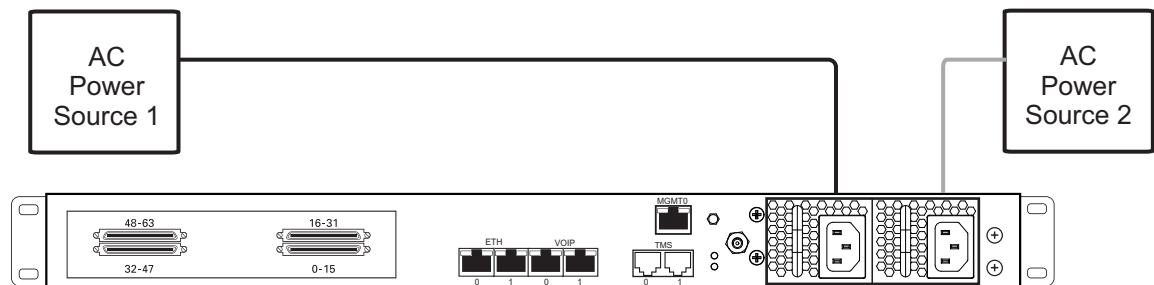

Figure 2.8 3200 Series Gateway AC Power Connection
1. Connect an AC power cable between the AC connector of the 3200 series gateway and an AC supply. See Figure 2.8 on page 23.